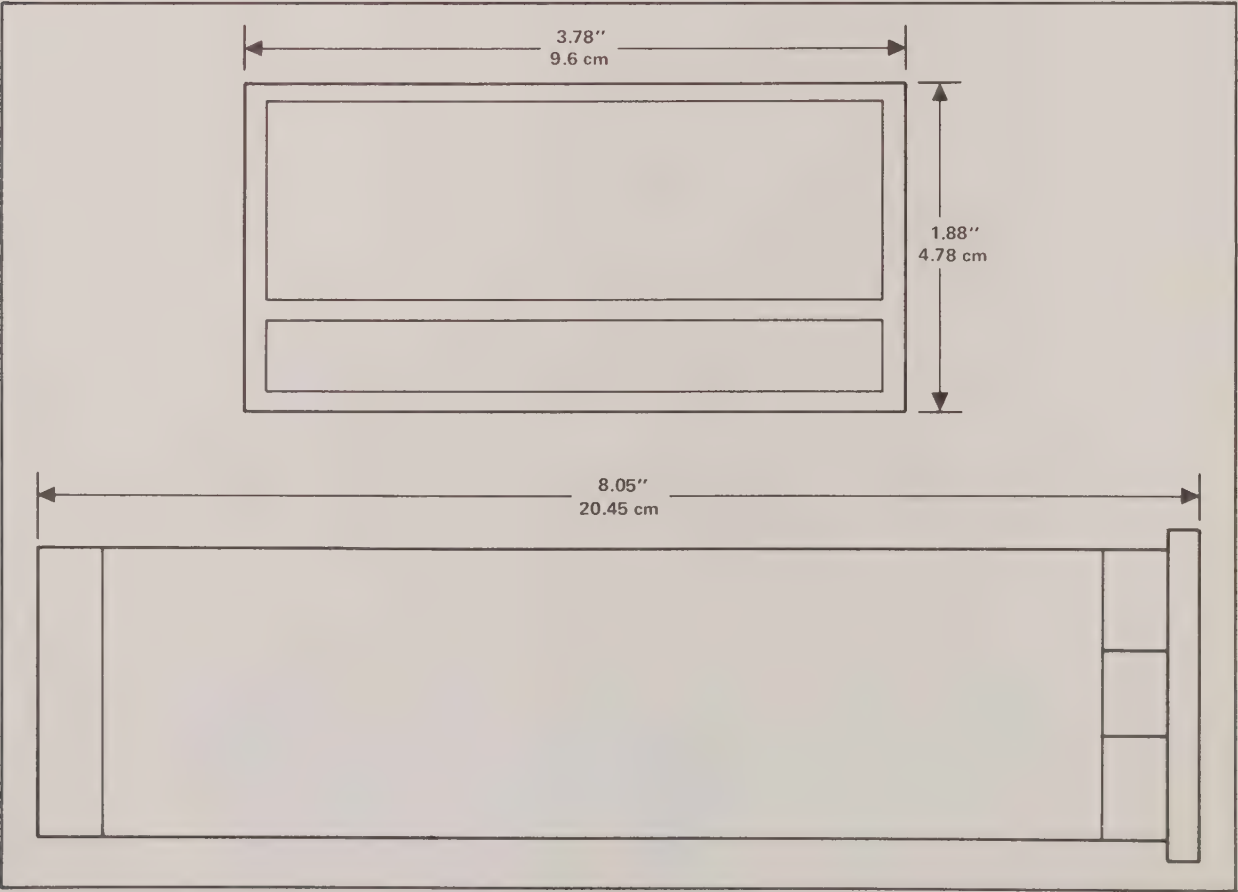

Figure 1-1. 2170A OUTLINE DRAWING
Size	1.88 in (H) x 3.78 in (W) x 8.05 in (D) (4.78 cm x 9.6 cm x 20.45 cm). Conforms to DIN standard. See Figure 1-1.